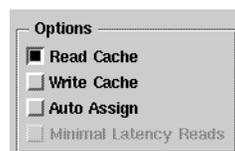

Figure 2-16 Options Display: Read Cache Enabled
- **Read Cache:** For LUNs other than RAID 3 or hot spares, to set the state of the read or write cache for the LUN, click the SP's read cache button near the left end of the array toolbar. The display indicates whether read or write cache for the default SP is enabled or disabled for the LUN, as shown in Figure 2-16.
8. For RAID 3 LUNs, make sure Auto Assign in the Options section of the Bind LUNs dialog is not selected (the default), as shown in Figure 2-16. For more information on auto assign, see page 47.